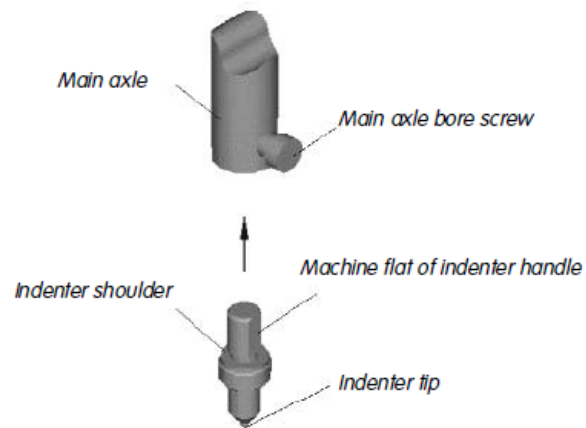

Figure 5-2 Installing the Indenter
1. To begin with, clean the indenter shank and the main axle hole, and then insert the shank into the hole. The shank surface must face the screw hole in the main axle when being inserted, as **Figure 5-2** illustrates.